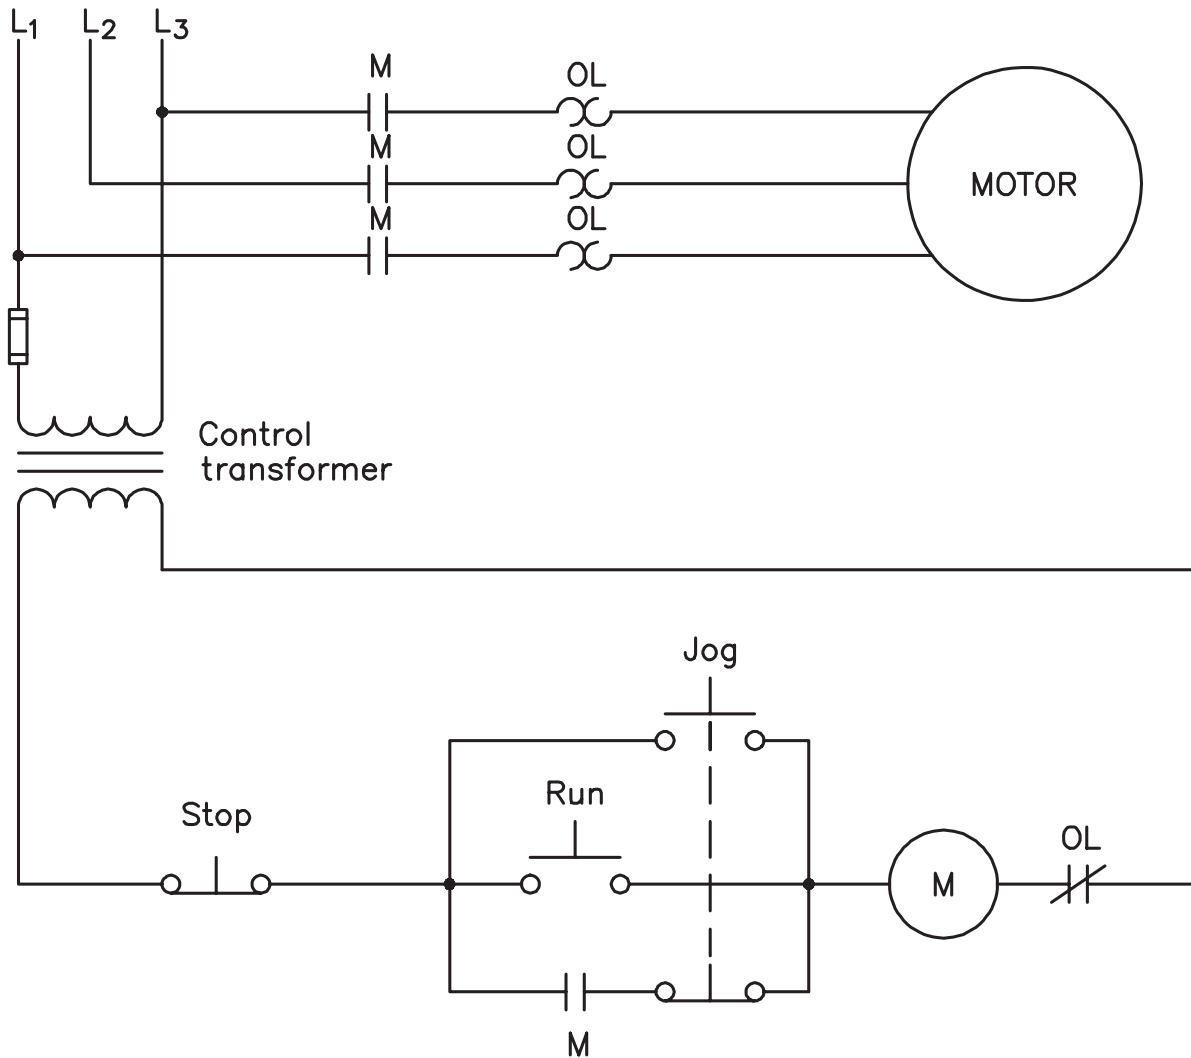

Figure 30-3 Jogging control using a double-acting push button.
Another method of constructing a run-jog control is shown in Figure 30-3. This circuit employs a double-acting push button as the jog button. The normally closed section of the jog push button is connected in series with the normally open M auxiliary holding contact. If the jog button is pressed, the normally closed section of the button opens to disconnect the
1. Using the schematic shown in Figure 30-3, place wire numbers beside the components.
3. Connect the circuit using the schematic diagram in Figure 30-3.